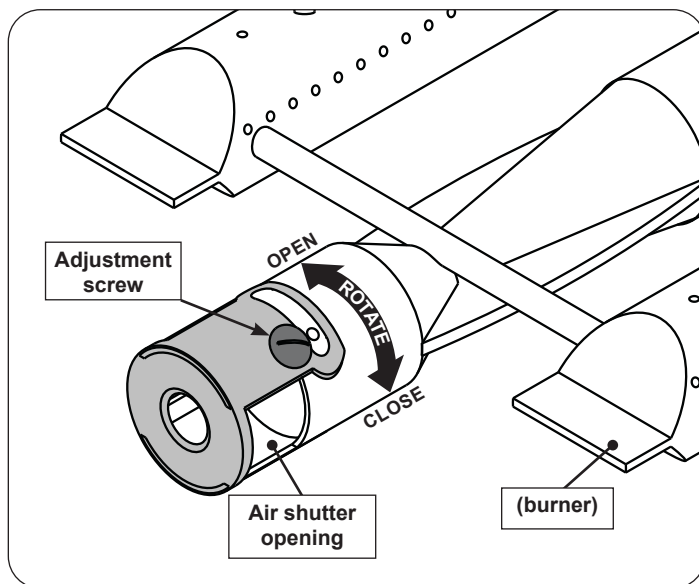

Fig. 41-2 Main burner air shutter adjustment detail
1. To adjust the air shutter, loosen the adjustment screw with a flathead screwdriver. Then rotate the shutter to open or close it. See Fig. 41-2 for details.